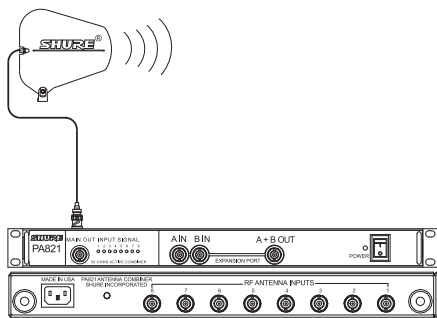

FIGURE 1
2. Attach an antenna to the **MAIN OUT** of PA821SWB. For wideband applications, use PA805SWB directional antenna (Figure 1).
**NOTE:** When the PA821SWB is powered on, the input signal indicators (1-8) on the front panel will illuminate if an active transmitter is connected to the corresponding input (1-8) on the back panel (Figure 1).